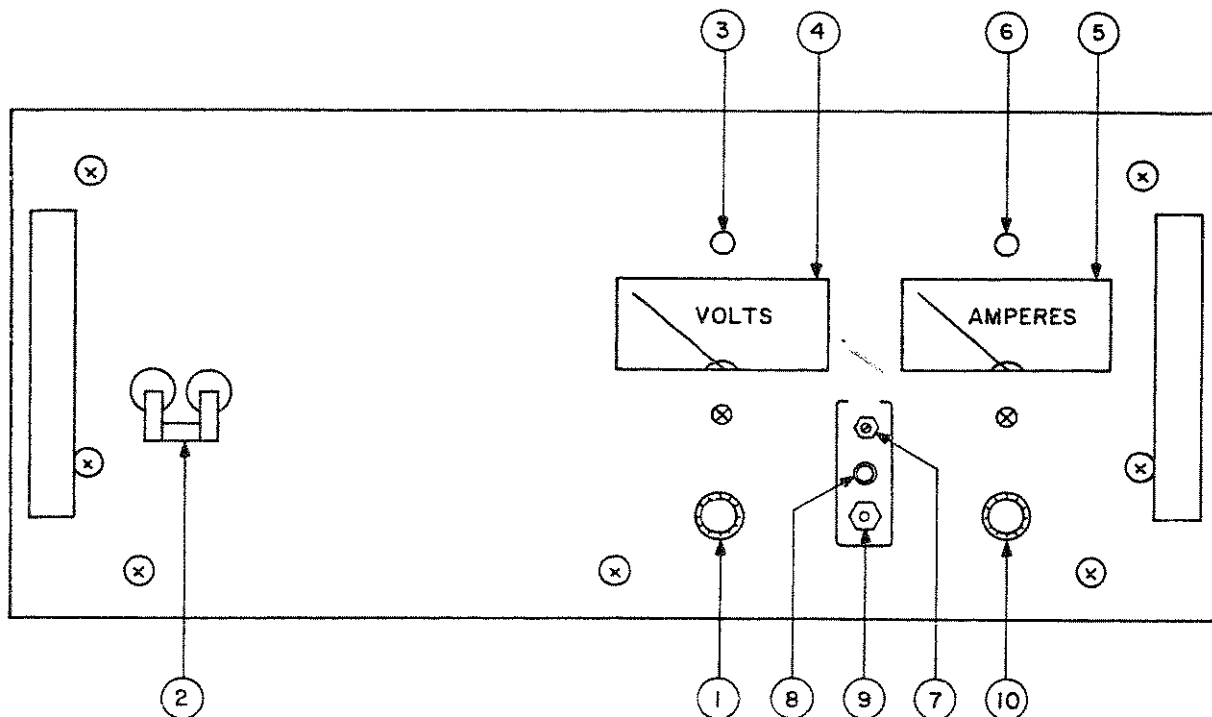
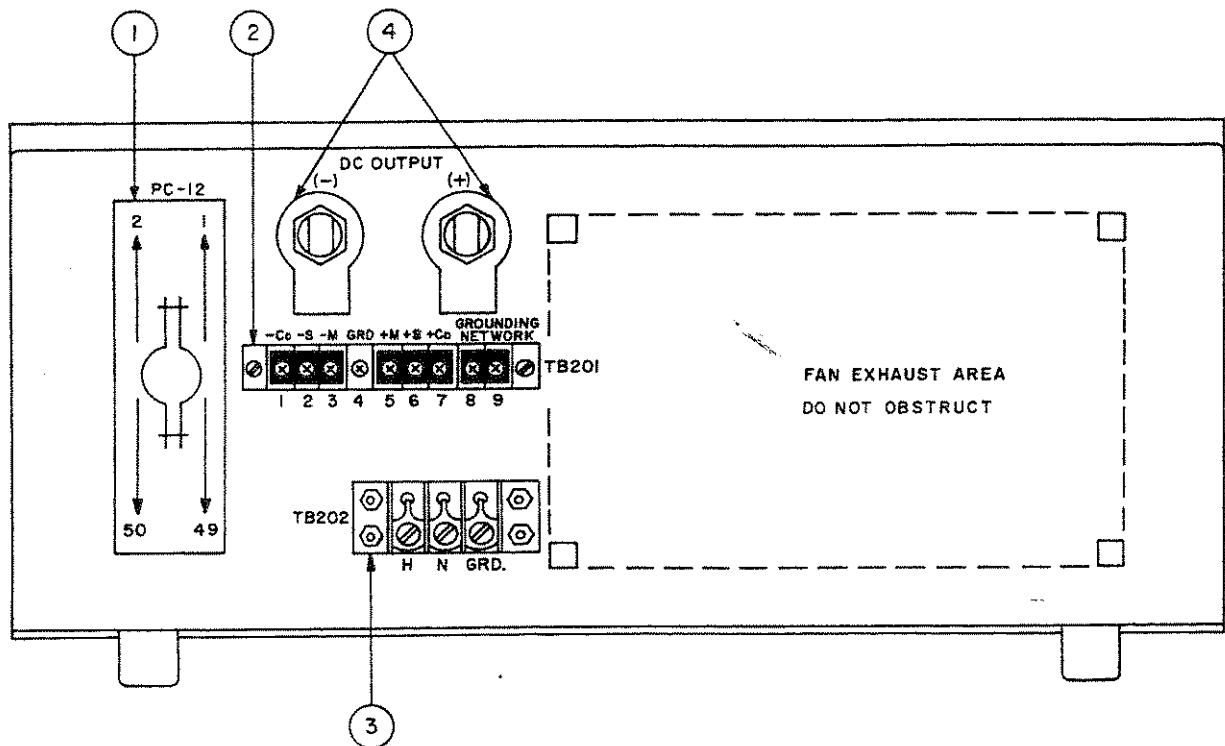

FIG. 2-2 CONTROLS AND TERMINATIONS, ATE FULL RACK GROUP, FRONT.
FIG. 2-3 TERMINATIONS, ATE FULL RACK GROUP, REAR.
- FRONT PANEL: Refer to FIG. 2-2 and Table 2-2.
- REAR: Refer to FIG. 2-3 and Table 2-3.
- 2-9 A simple operating check after unpacking and before permanent installation is advisable to ascertain whether the power supply has suffered damage resulting from shipment. Refer to FIG. 2-2 and to FIG. 2-3 for the location of the operating controls and output terminals.
- To reset the adjusted crowbar point, press DISARM button again and advance VOLTAGE CONTROL clockwise. Note voltage at which the CROWBAR INDICATOR lights up. Readjust LEVEL control if necessary, by repeating step (2) and check again by repeating steps (3) and (4).
A resistor/capacitor network is connected from the negative monitor terminal to the metal chassis of the power supply. If this internal network is *not* desired, the connection to the chassis can be opened by removing the link (8)-(9) on TB201 (See FIG. 2-3).